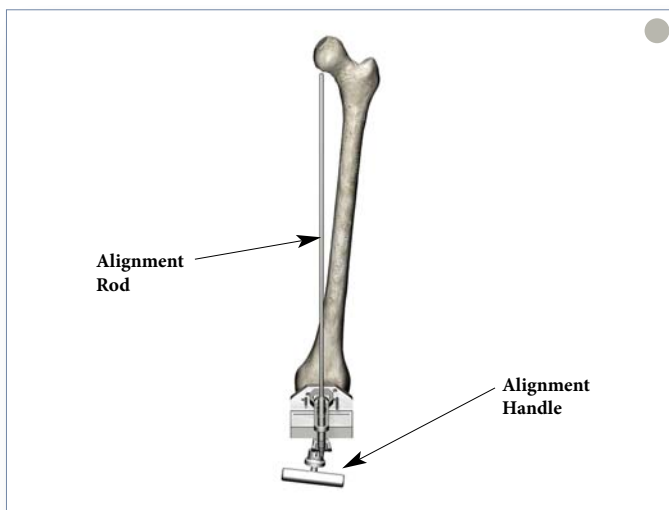

Figure 8
- ▶ Prior to pinning the Distal Femoral Resection Guide to the femur, an optional external alignment check may be performed. Attach the Alignment Handle to the Distal Femoral Resection Guide and insert the Alignment Rod into the handle (Figure 8). Alignment is correct when the rod intersects the center of the femoral head and roughly parallels the axis of the femur in the lateral view. Once acceptable alignment is confirmed, remove the handle and pin the Distal Femoral Resection Guide to the anterior femur using two 1/8" drill pins.